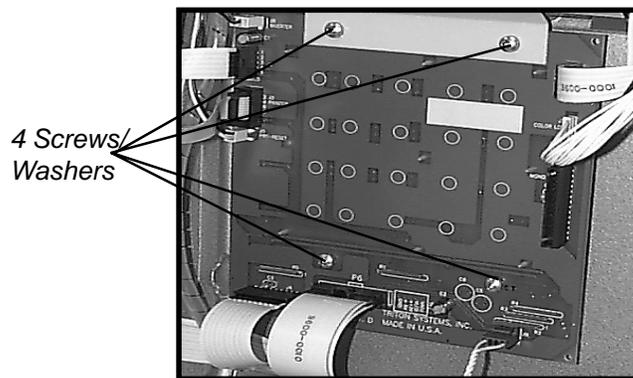

Figure 1. Main Keypad.
1. Unlock and open the Top Enclosure of the Cash Dispenser. Turn off the AC power to the terminal by pushing the AC power switch to the OFF (0) position.
2. The Main Keypad is located just below the display mounting bracket on the back of the Front Panel (See Figure 1). It's mounted directly to the back of the front panel with 4 screws and washers.
4. Remove the 4 screws and washers that secure the Main Keypad PCB Assembly to the back of the front panel and remove the keypad from the terminal, as shown in Figure 1. Retain the Rubber Keypad for use with the replacement board.